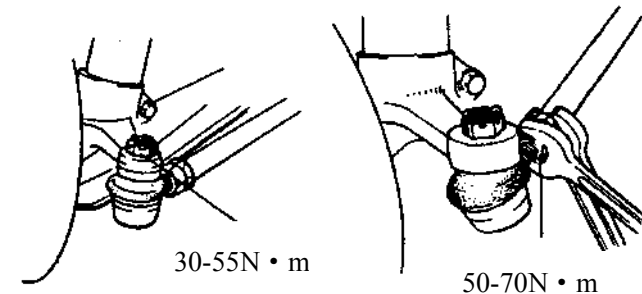

Fig.3.6-11
2) Connect the steering cross pull rod to the steering knuckle. Screw the groove type nut to the specified torque range. Please refer to Fig. 3.6-11.